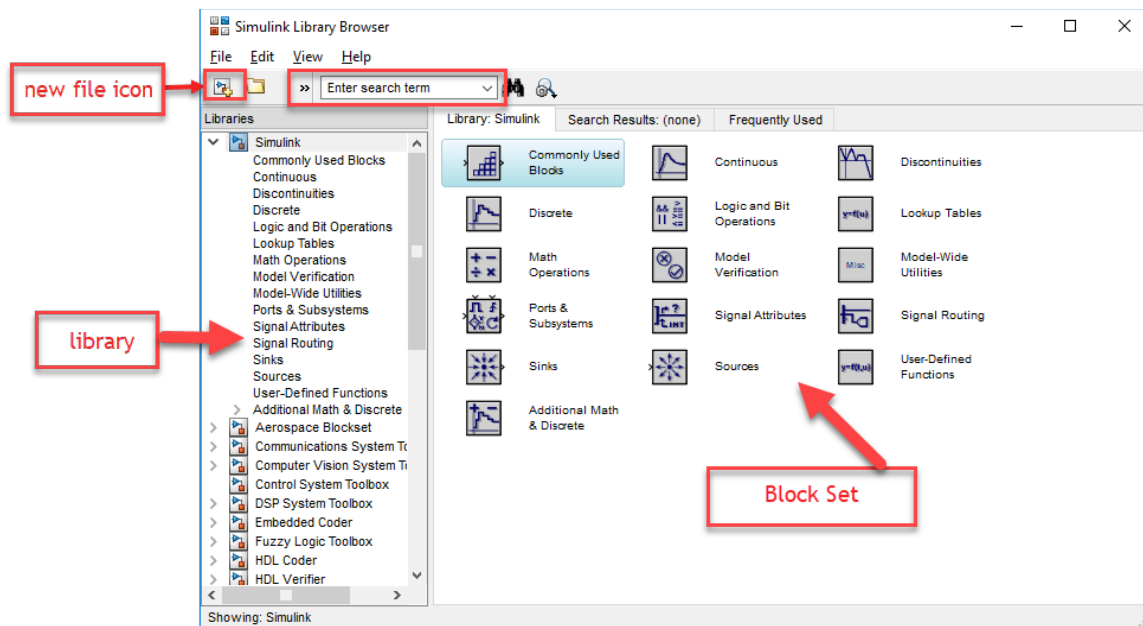
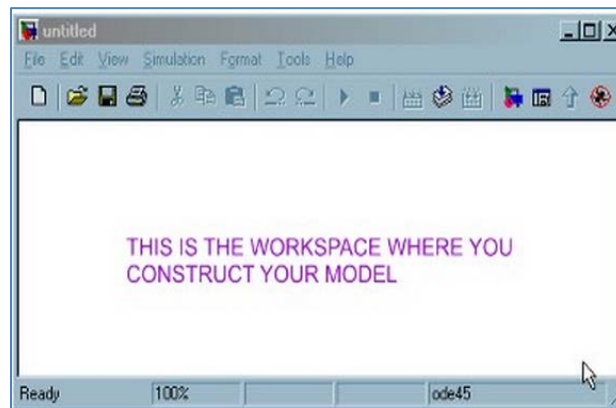

Figure 3.3
Figure 3.4
2. If installed, the SIMULINK Library Browser will soon pop up as shown in Figure 3.3.
- Click on the “new file icon” as shown in Figure 3.3, identical to a MS Word new file icon. A new window will appear as shown in Figure 3.4. That is your space to work in. After creating a model it can be saved (using the save icon).